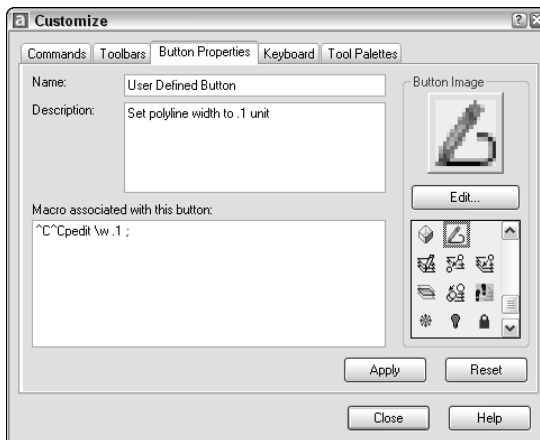

Figure 29-11: The completed Button Properties dialog box
11. Complete the dialog box, as shown in Figure 29-11. Type the macro as follows after the `^C^C`, which is already there, being careful to include the spaces as well:
12. Choose the Polyline Edit button from the Button Icon list, as shown in Figure 29-11. Choose Edit to open the Button Editor.